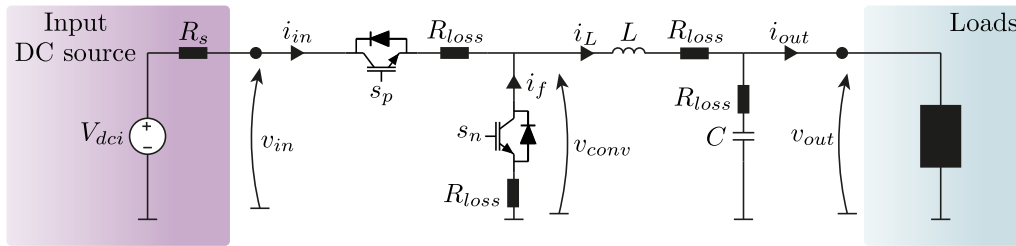
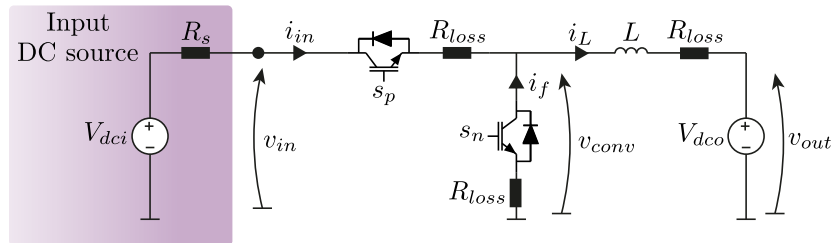
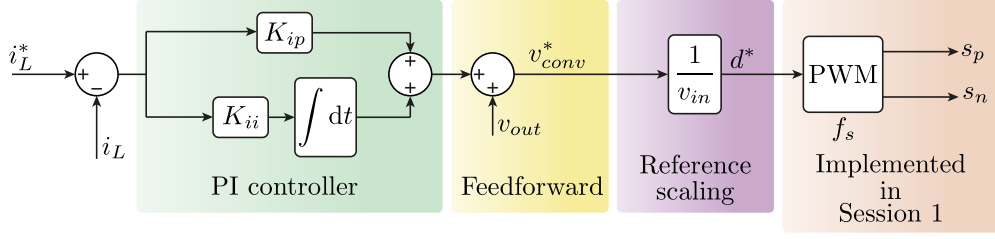
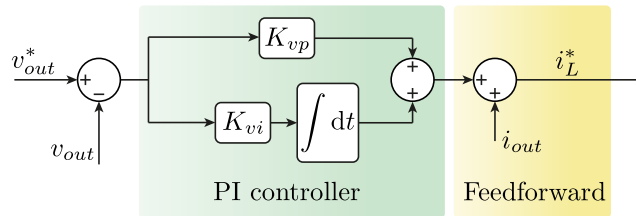

Figure 1: Nonideal Synchronous Buck converter.
Figure 3: Modified buck for current control testing.
Figure 4: Internal inductor current controller with output voltage feedforward.
Figure 5: External output voltage (capacitor voltage) regulator with output current feedforward.
Build the circuit shown in Fig. 1, using the parameters of Table 1. To control the switches of the power converter, implement one of the PWMs presented in the Session 1.
In this part, the internal inductor current controller will be implemented. Therefore, the circuit must be slightly modified. Implement the circuit shown in Fig. 3. Observe that the output capacitor and load were replaced by an ideal voltage source.
In this laboratory, the internal controllers are based on a Proportional Integral (PI) controller with output voltage feedforward. Implement the control diagram shown in Fig. 4 with the parameters shown in Table 2.
Observe in Fig. 4 that the output of the control stage corresponds to the reference converter voltage, v_{conv}^* . This is the voltage that will be modulated by the PWM stage. Therefore, this voltage must be scaled down in order to fit in the range of the carrier of the PWM generator. The down-scaling is done
1. Simulate the circuit of Fig. 3 using the controller of Fig. 4 with the parameters of Table 2. Configure the output voltage source to 400V, and set the reference current to zero, $i_L^* = 0$.
The external output voltage can be implemented once the internal current controller is working properly. In this part, the reference circuit is again the circuit implemented in Fig. 1, in which the capacitor voltage acts as an output filter.
The output voltage regulator is also based on a PI controller, with output current feedforward. The control diagram is shown in Fig. 5, and its parameters are listed in Table 3.
1. Simulate the circuit of Fig. 1, using the cascaded control diagrams of Fig. 4 and Fig. 5. **Do not connect the load**, and apply a voltage reference from 250 to 400V. **Show and comment the transient response.**